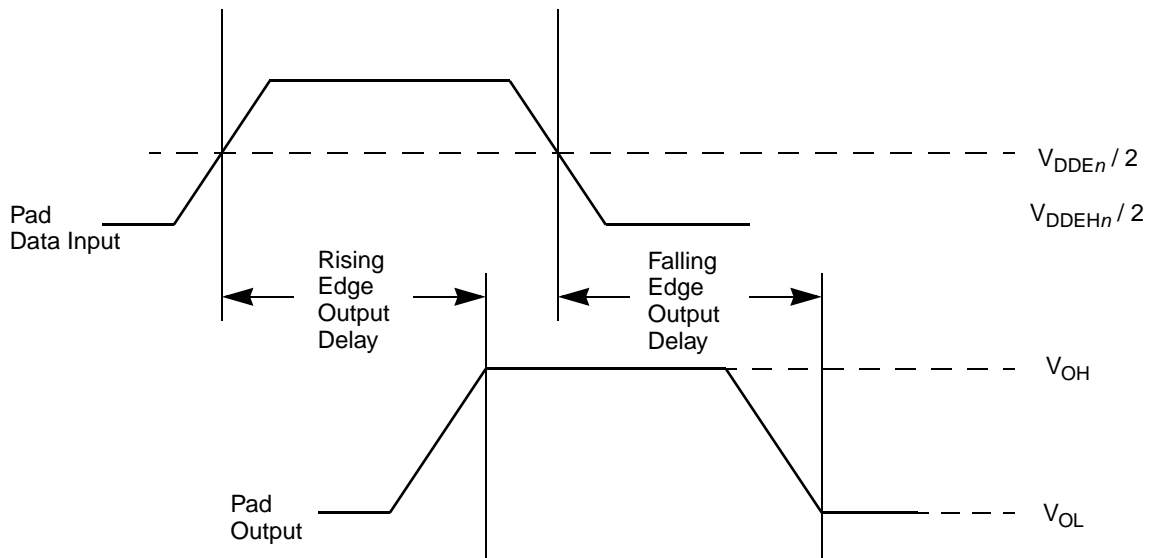

Figure 7. Pad Output Delay
5 Out delay is shown in Figure 7. Add a maximum of one system clock to the output delay for delay with respect to system clock.
6 Out delay is shown in Figure 7. Add a maximum of one system clock to the output delay for delay with respect to system clock.
- 5 Out delay is shown in Figure 7. Add a maximum of one system clock to the output delay for delay with respect to system clock.